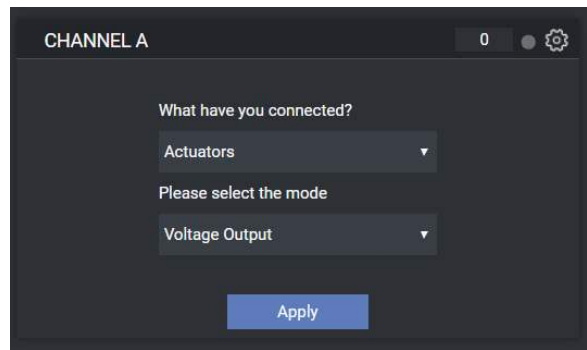
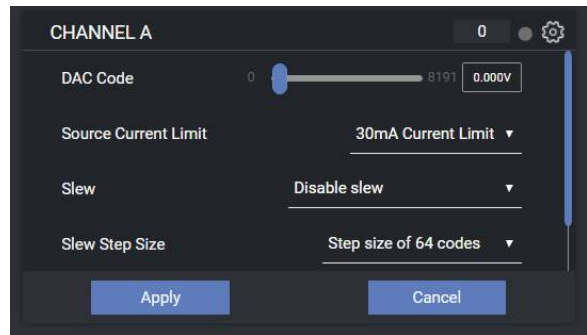

Figure 4. Channel Use Case View
Figure 5. Channel Use Case Advanced Settings
The **Configure** tab configures the four channels of the AD74413R. Each channel can be configured as described in the AD74413R data sheet. Use the dropdown menus to configure the required use case (see Figure 4).
After selecting the use case, the corresponding advanced settings are displayed in the channel window (see Figure 5). The gear icon in the top right corner allows the user to toggle between the main settings and the advanced settings.
Click **Apply** to update the device with the selected settings (see Figure 5).
Any changes made on the register map are automatically reflected in the **Configure** tab. Click **Apply** in the **Configure** tab shown in Figure 4 and Figure 5 to display results in the **View Results** tab (see Figure 6).
1. In the **Configure** tab, use the dropdown menus to select **Actuators** and **Voltage Output** (see Figure 4).
2. In the advanced settings window (see Figure 5), set the **DAC Code** slider to 8191 (11 V).